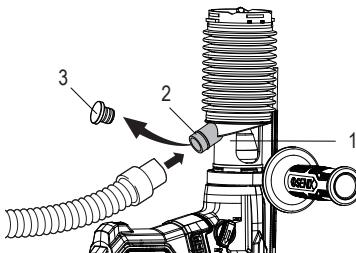

Fig.5
The dust collection shroud (1) is designed with a vacuum connection port (2) for debris removal. To use, remove the dust cap (3) and connect a vacuum line to the port (2) (Fig.5).